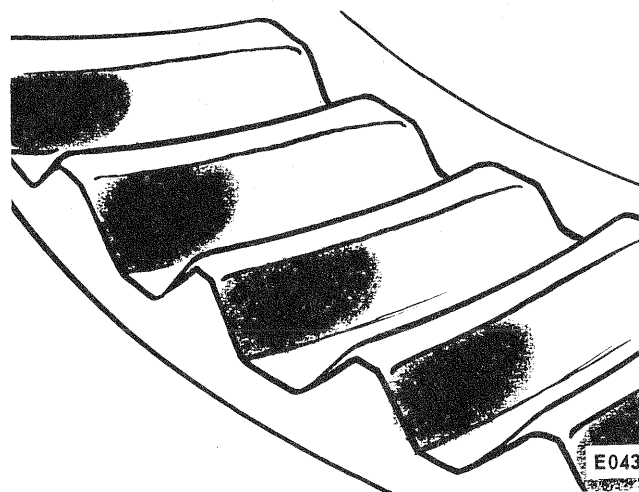

Figure 41
b. Fig. 41 shows short contact at heel. To correct, move gear toward pinion. Then move pinion away from gear to again obtain correct backlash.